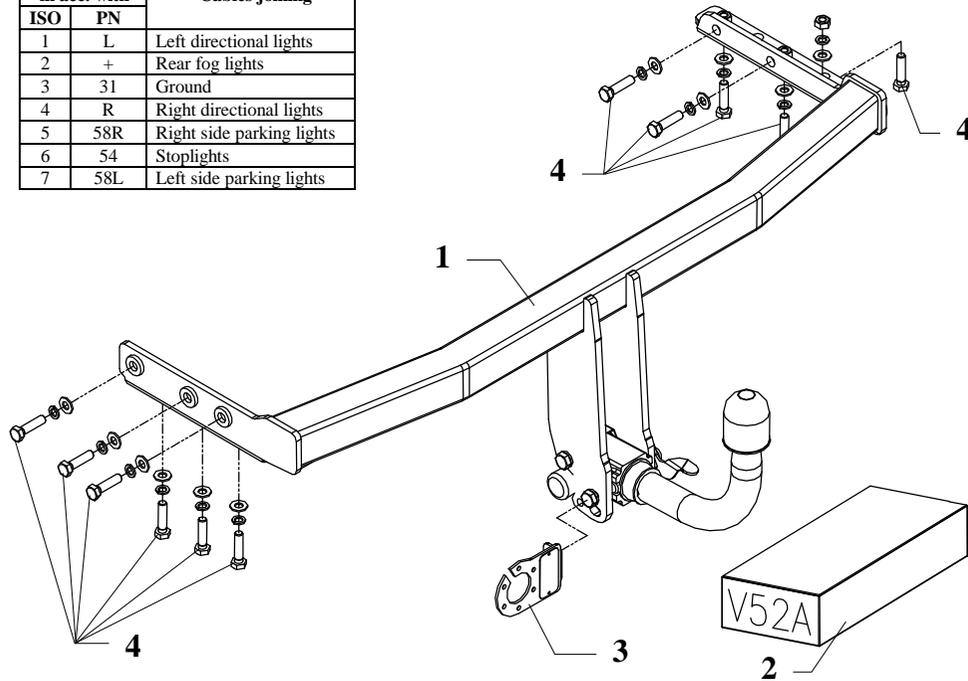

Fig. 1
3. Slide the main bar of towbar (pos. 1) to the chassis members and fix it using M10x40mm – pos. 4 (see fig. 1).